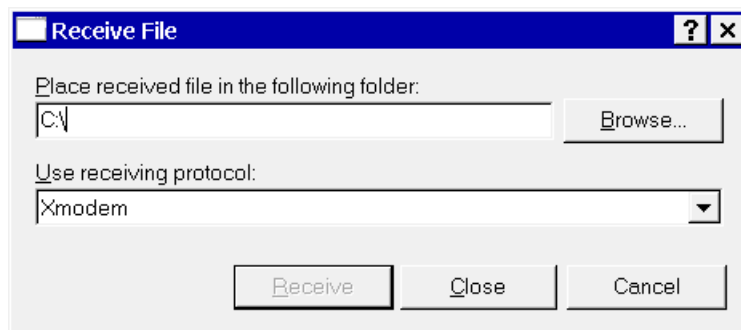

Figure 54: Receive File Settings
- Enter a folder where to save the file and use the XMODEM protocol. (See figure 54)